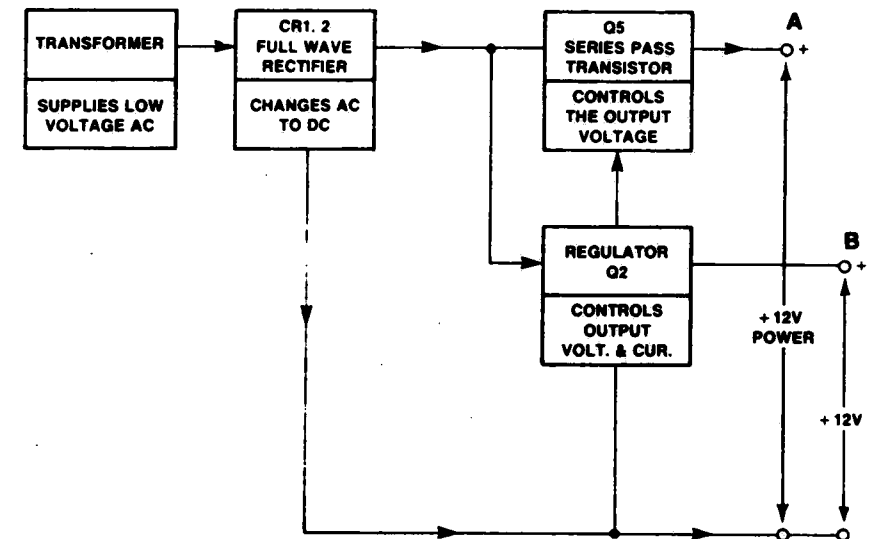

Figure 3-10. PRINTCON 12-VOLT POWER SUPPLY.
+5 volts direct current (VDC) at 2.5 amp voltage regulated with current limit and electronic crowbar over- and under-voltage protection (Figure 3-10).
+12 VDC at 0.1 amp, voltage regulated (Figure 3-10).
+12 VDC at 1.5 amp, voltage regulated (Figure 3-10).
2. The +12 VDC regulated output is supplied by the +18 VDC unregulated circuit. The unregulated +18 VDC supplies the integrated circuit regulator Q2 which regulates the output voltage (Figure 3-10, Point B).
3. The +12 VDC power output is also supplied by the unregulated +18 VDC power supply. Series pass transistor Q5 uses the +12 VDC regulated supply as a reference to regulate the +12 VDC power output (Figure 3-10, Point A).